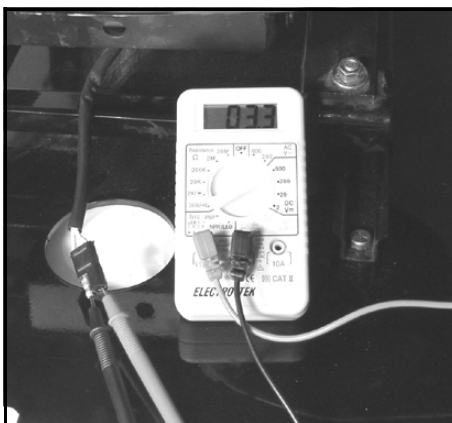

Figure 10G-1. Seat Test
The seat switch allows the engine to run when the operator is in the seat and the reels are operating. If the operator leaves or falls from the seat with the engine running, the engine will shut down. See Figure 10G-1 and test switch as follows:
3. Connect one lead to each side of the harness connector. See Figure 10G-1.
5. See Figure 10G-2 and all switch positions as follows: